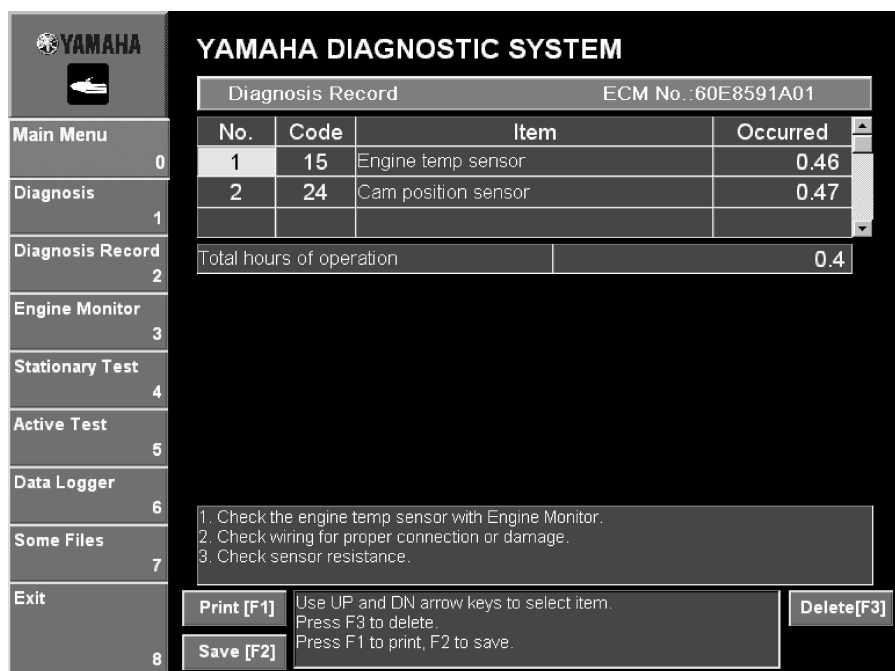

Fig. 46
2. Click the **Delete [F3]** button or press the F3 key on your keyboard. (See fig. 46.) A confirmation message appears.